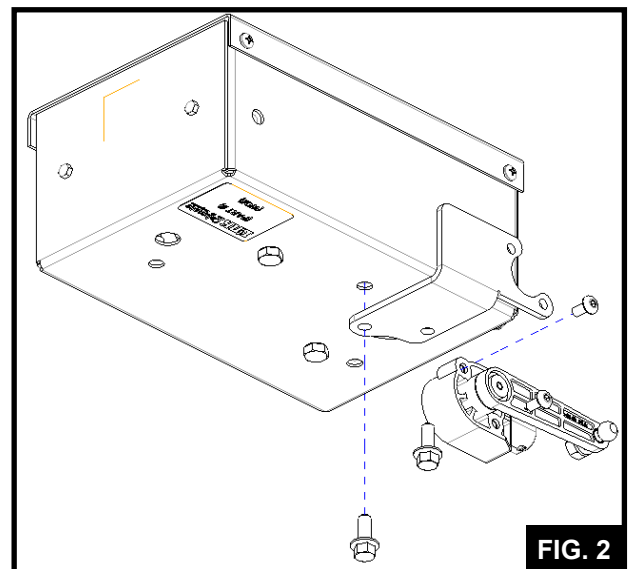

FIG. 2
Mount the height control sensor bracket to the control box using the (2) 1/4 X 5/8 flange head bolts provided (**FIG.2**).
Mount the height control sensor to the bracket on the control box using the (2) M5 X10mm button head screws provided (**FIG.2**).